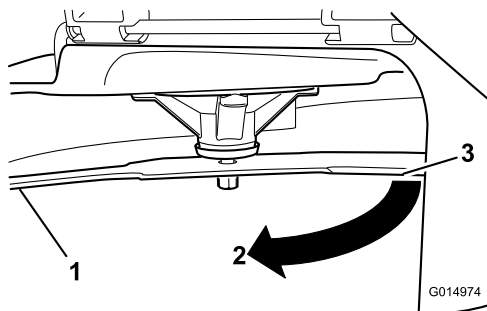

Figure 78
3. Measured distance between blade and the surface (A)
4. Rotate the same blade 180 degrees so that the opposing cutting edge is now in the same position (Figure 78).